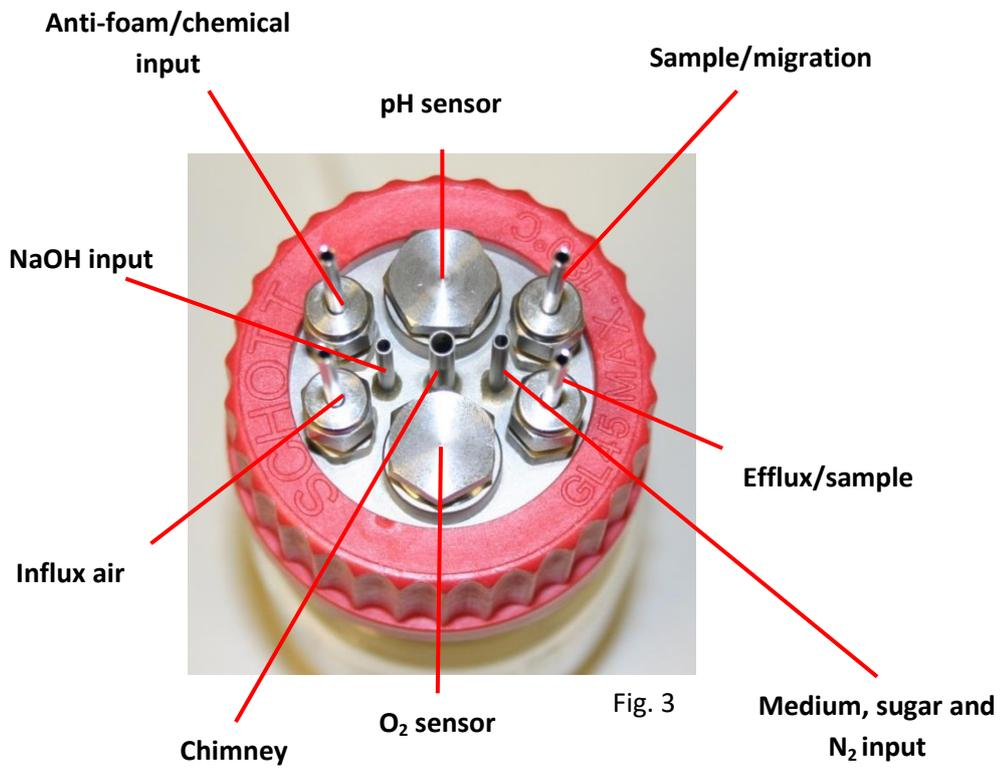

Fig. 3
2. When the setup is clear, add all necessary rods into the reactor cap using a number 8 wrench to unscrew the nuts of the height adjustable ports and screw them tight by hand. For exact locations of the ports see Fig. 3. The relative positions of the various ports are important in view of homogeneity, reproducibility and reliability of sensor readings. Make sure to use the tubes that are cut at an angle for inputs and for outputs the straight cut tubes. This is important because small additions of solution are more easily released from the tubes that are cut at an angle.